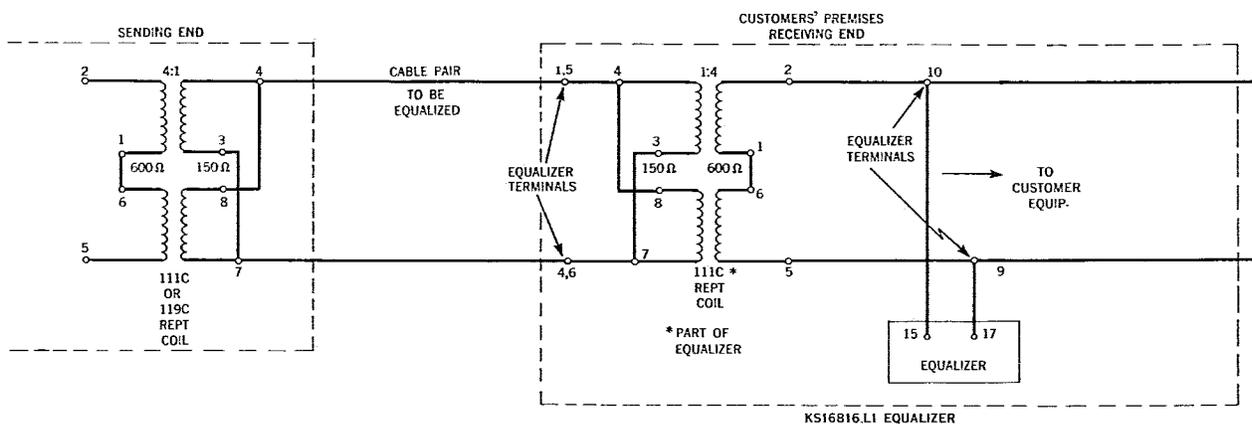

Fig. 5 — Simplified Application Schematic for 15 KC Program Circuits
3.03 Fig. 5 shows a simplified schematic for a 15 KC program circuit. In this arrangement, the equalizer is connected to the drop side of the 111C repeating coil provided with the unit. The equalizer will provide more uniform equalization when connected in this manner.